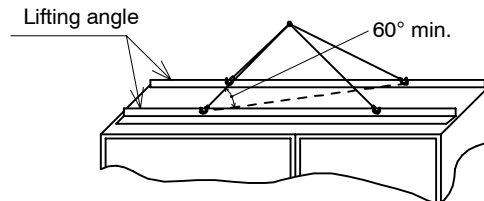

Fig 2.2 Wire Lifting
- When using wires to lift the Inverter Panel, route wires so as to provide a lifting angle of 60° min., as shown in *Figure 2.2* below. If the lifting angle is less than this, allowable lifting loads will not be assured.